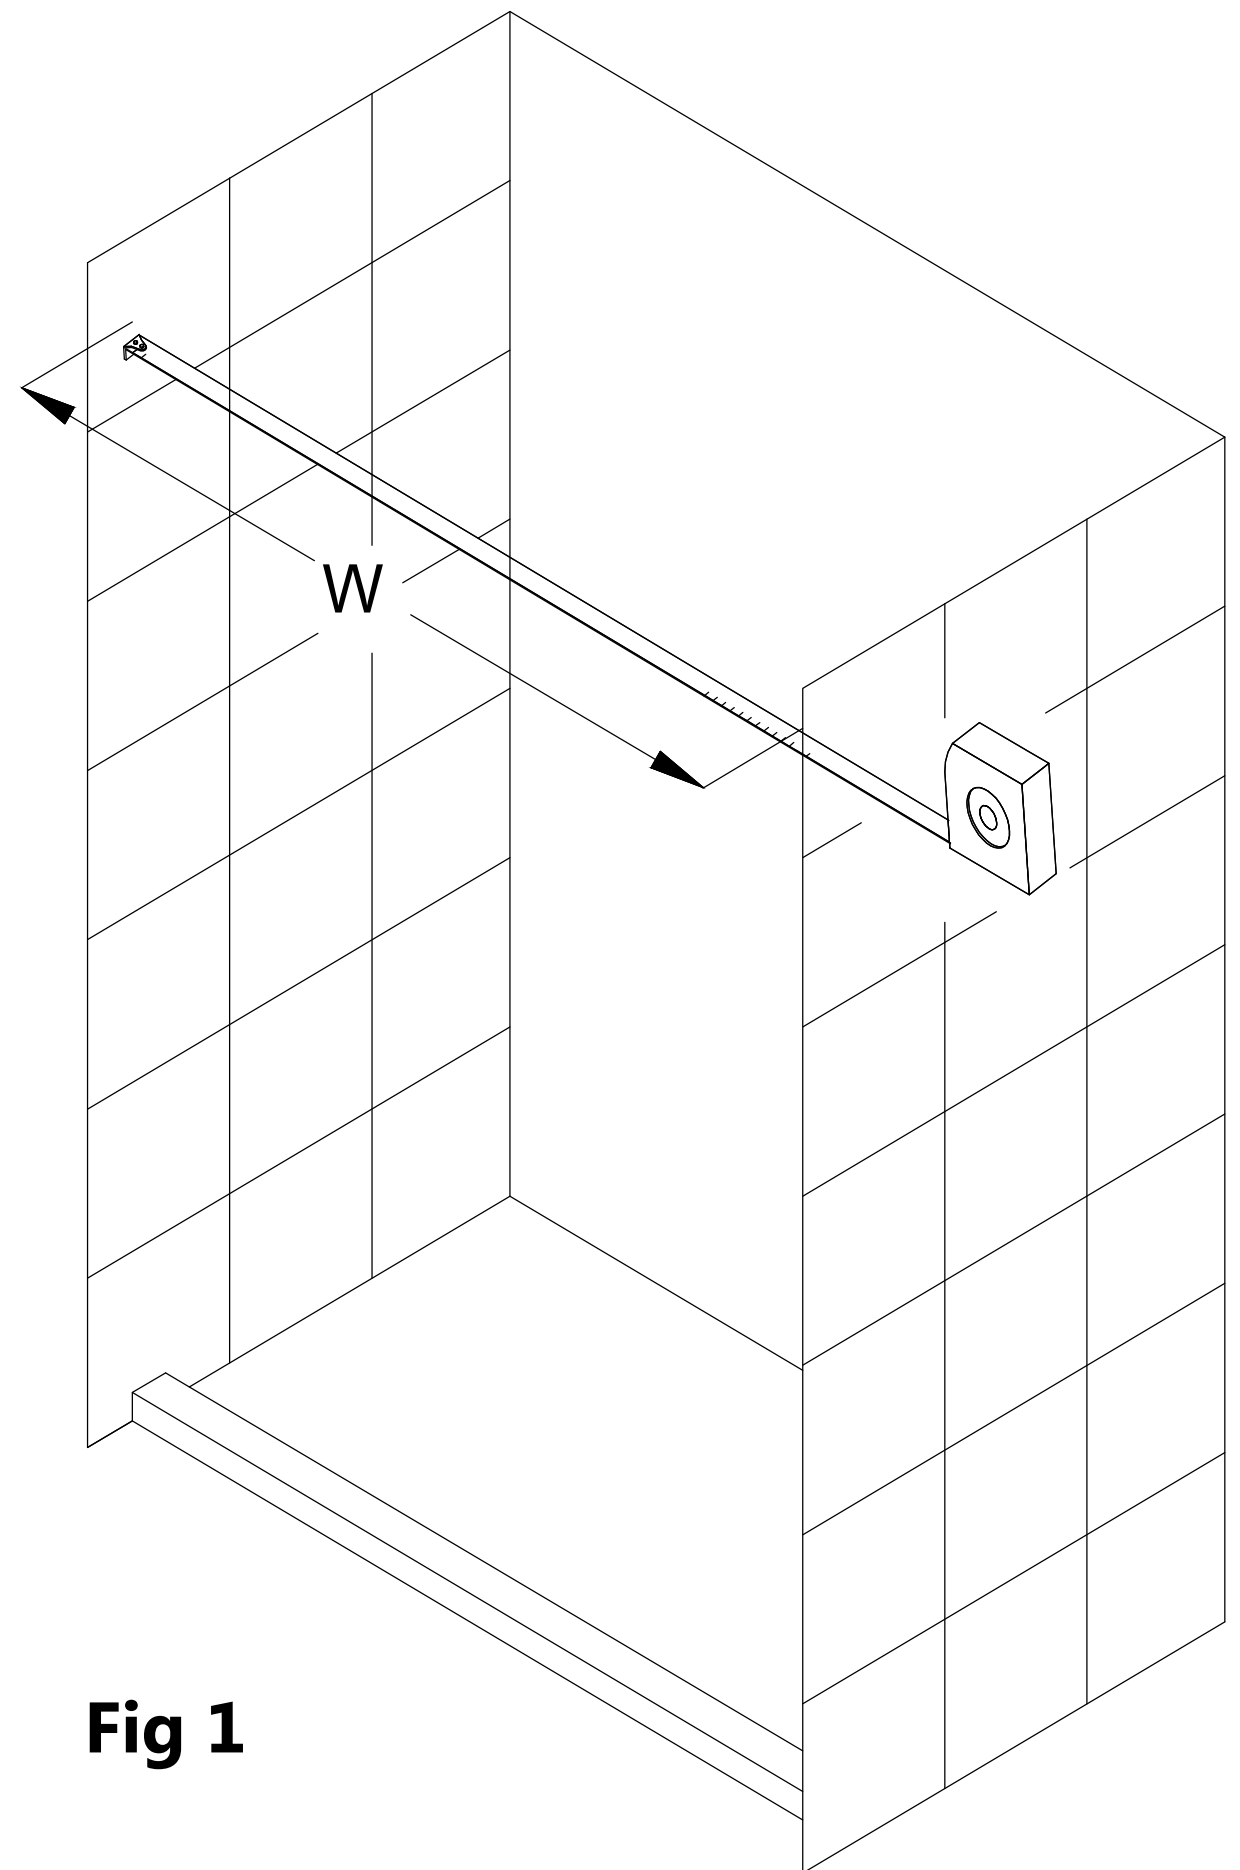

Fig 1
This distance will represent the finished opening size "**W**" that will be used to calculate the finished cut dimension for the **Upper Guide Rail (I)**. (**Fig 1**)